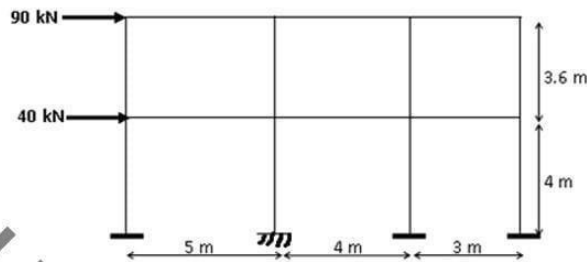

Figure 3
5. Analyse the frame shown in figure 3, using cantilever method. Assume that the columns have equal sectional properties. Draw BMD. [15]